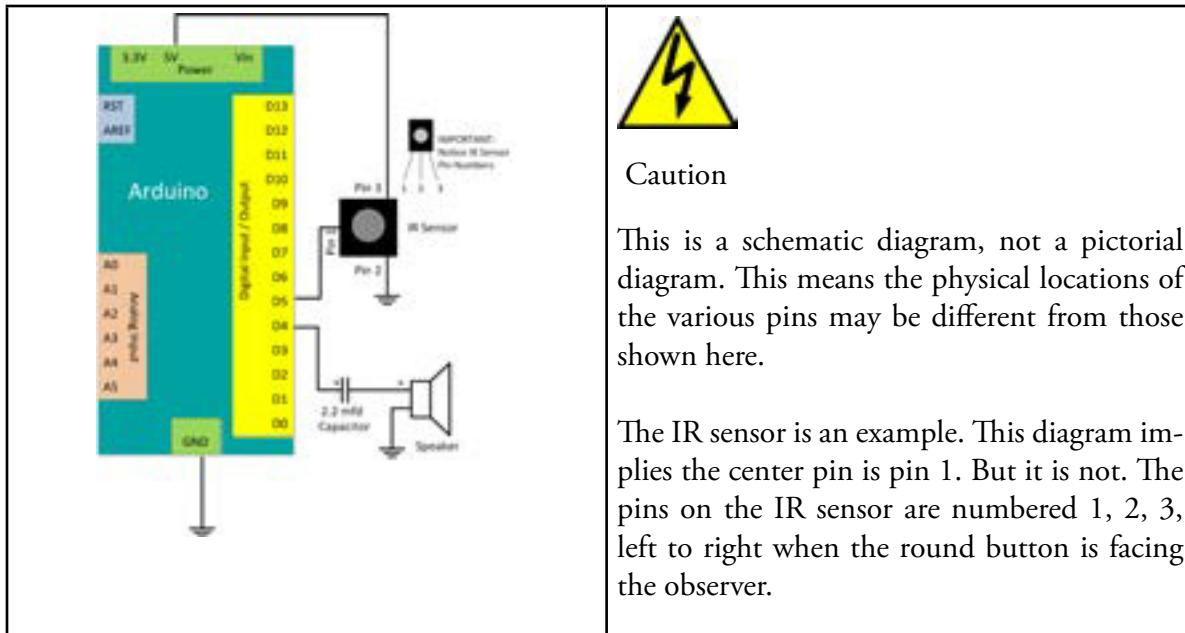

Figure 17-2. Schematic diagram of Arduino™ Uno wired to IR sensor and speaker
1. Using a bread-board, wire the parts as shown in Figure 17-2.